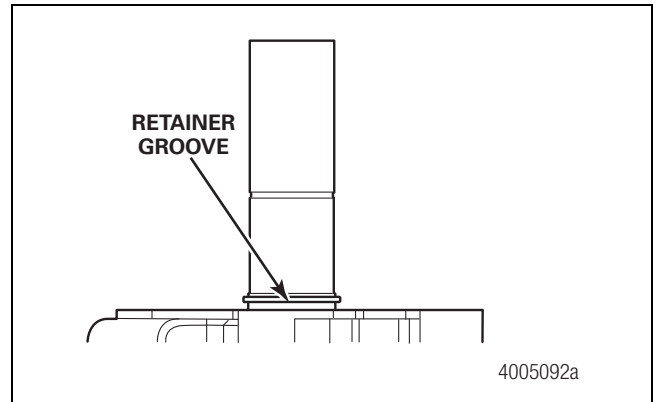
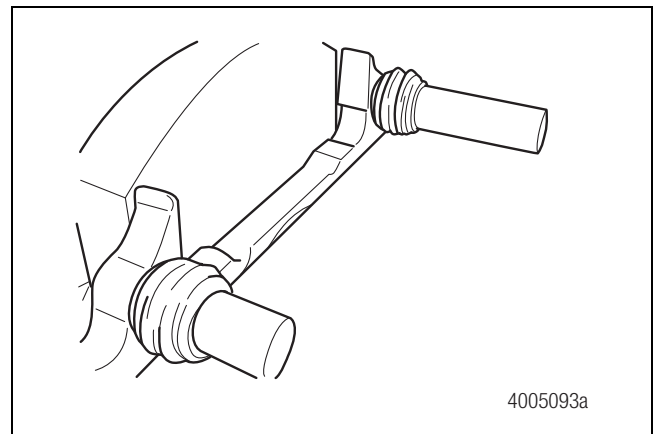

Figure 6.49
Figure 6.50
2. Slide the new slide pin boots over the slide pins. Verify that the slide pin boot bead is in the slide pin retainer groove. Figure 6.49 and Figure 6.50.